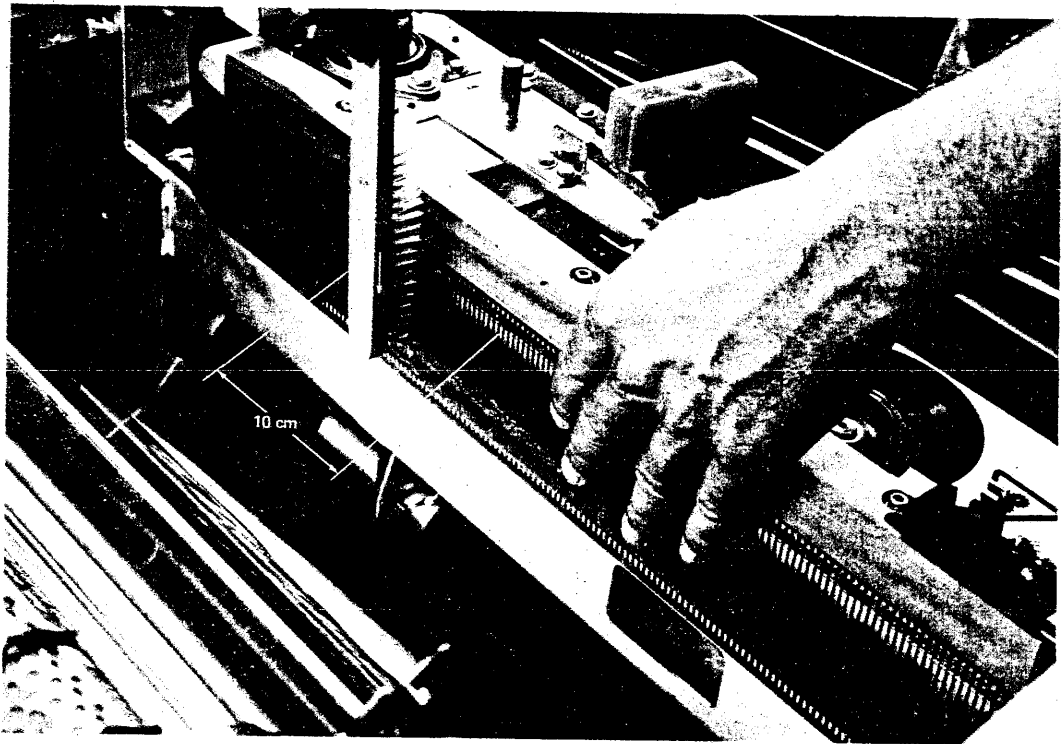

Figure 4-1. Belt Cleaning
5. Using General Cleaner, clean the lower part of the belt fingers and the body of the belt over a distance of about 10 cm (4 in.) as in Figure 4-1.
7. Using the hard brush, clean the belt characters and finger interspaces by moving the brush vertically from top to bottom (see Figure 4-1) taking care not to damage the belt fingers.